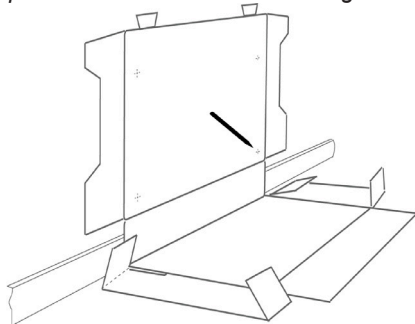

Fig. 3
- The holes can also be marked by using the template on the box. Make sure the template is flat to the wall surface! See Fig. 3.